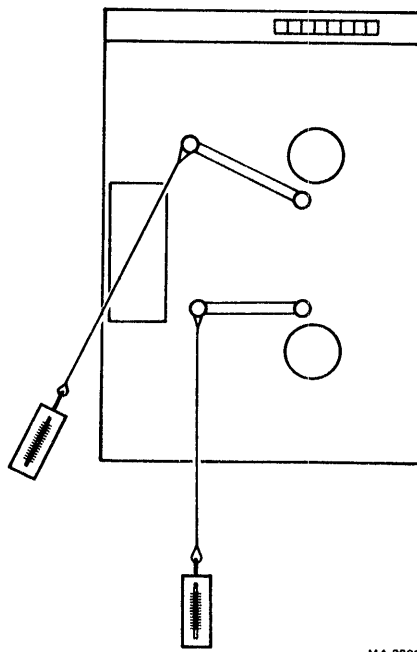

Figure 7-11 Tension Arm Adjustment
7.6.2.6 Tape Tension Coarse Adjustment – Perform the tape tension coarse adjustment as follows. Refer to Figure 7-11.